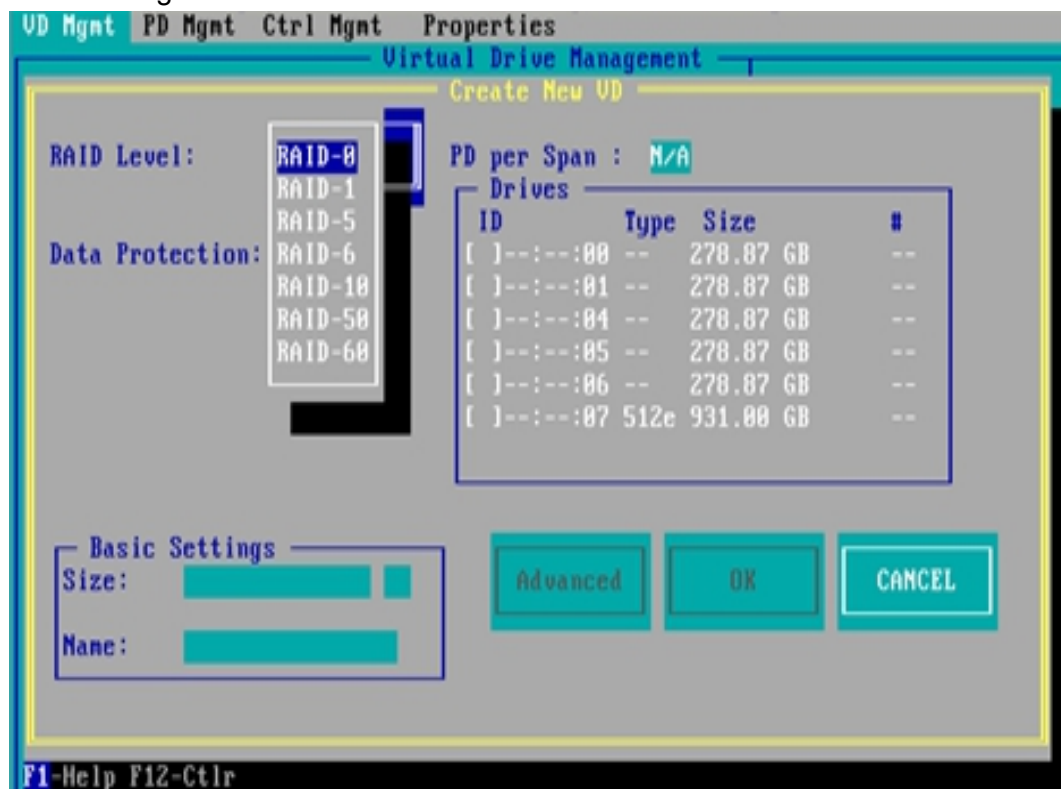

Figure 6-109
- d) Enter the interface shown in figure 6-109, set the RAID level, and press enter.
- ✧ Figure 6-109 setting RAID level